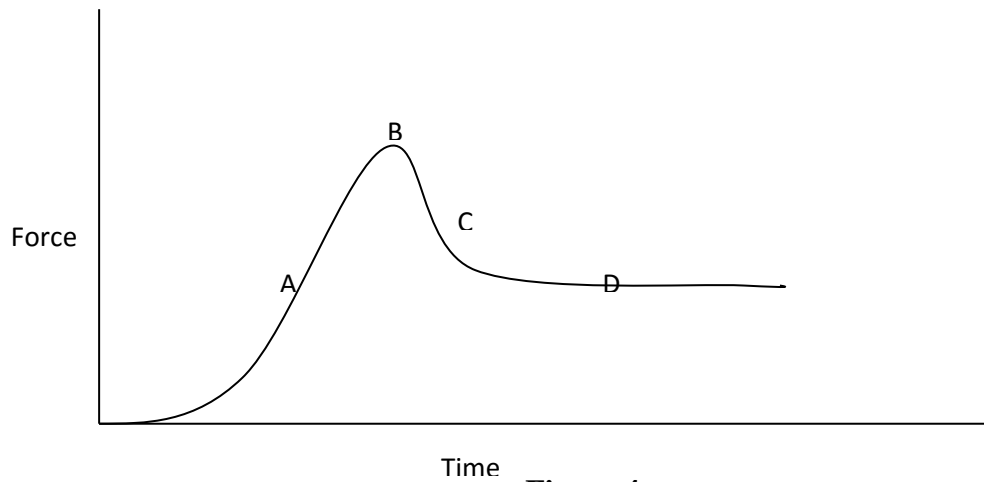

Figure 4
1. The graph above (figure 4) is representative of the force applied to an object as it is pulled across a horizontal surface. Draw a force diagram for each of the positions labeled in the graph above. Describe the motion of the object for the positions labeled in the graph.